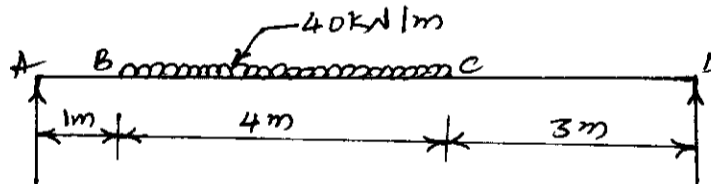

Fig.Q7(b)
- b. For the beam loaded as shown in Fig.Q7(b), find the position and magnitude of maximum deflection. Take $I = 4.3 \times 10^8$ and $E = 200 \text{ kN/mm}^2$. (14 Marks)